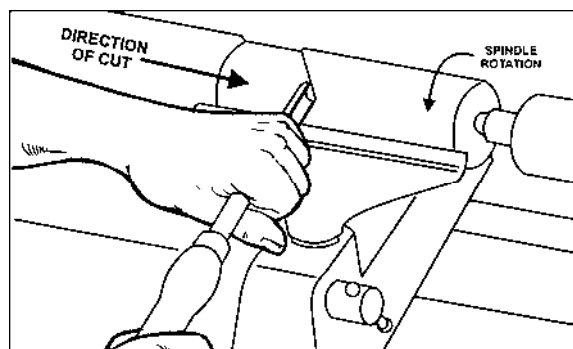

Figure 34
3. Beginning about 2" from the tailstock end of the workpiece, roll the flute (hollowed-out portion) of the tool in the direction of the cut. See Figure 34. Make long sweeping cuts in a continuous motion to rough the piece down to a cylinder.